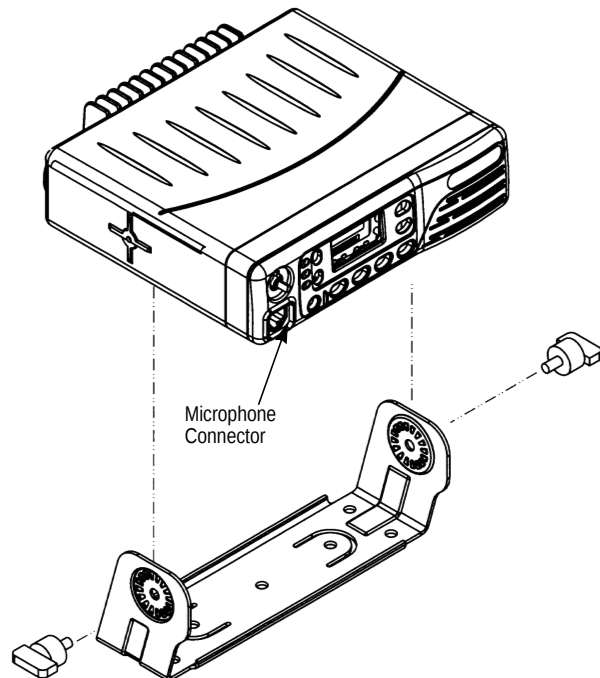

Figure 2-6. 12 W & 15 W Radio Being Placed onto a Trunnion
9. Plug the microphone cord into the control head connector. Refer to Figure 2-6. Your microphone has a telephone type connector at the end of its cord. Connect and disconnect your radio microphone cord in the same manner you connect and disconnect your telephone handset cord.